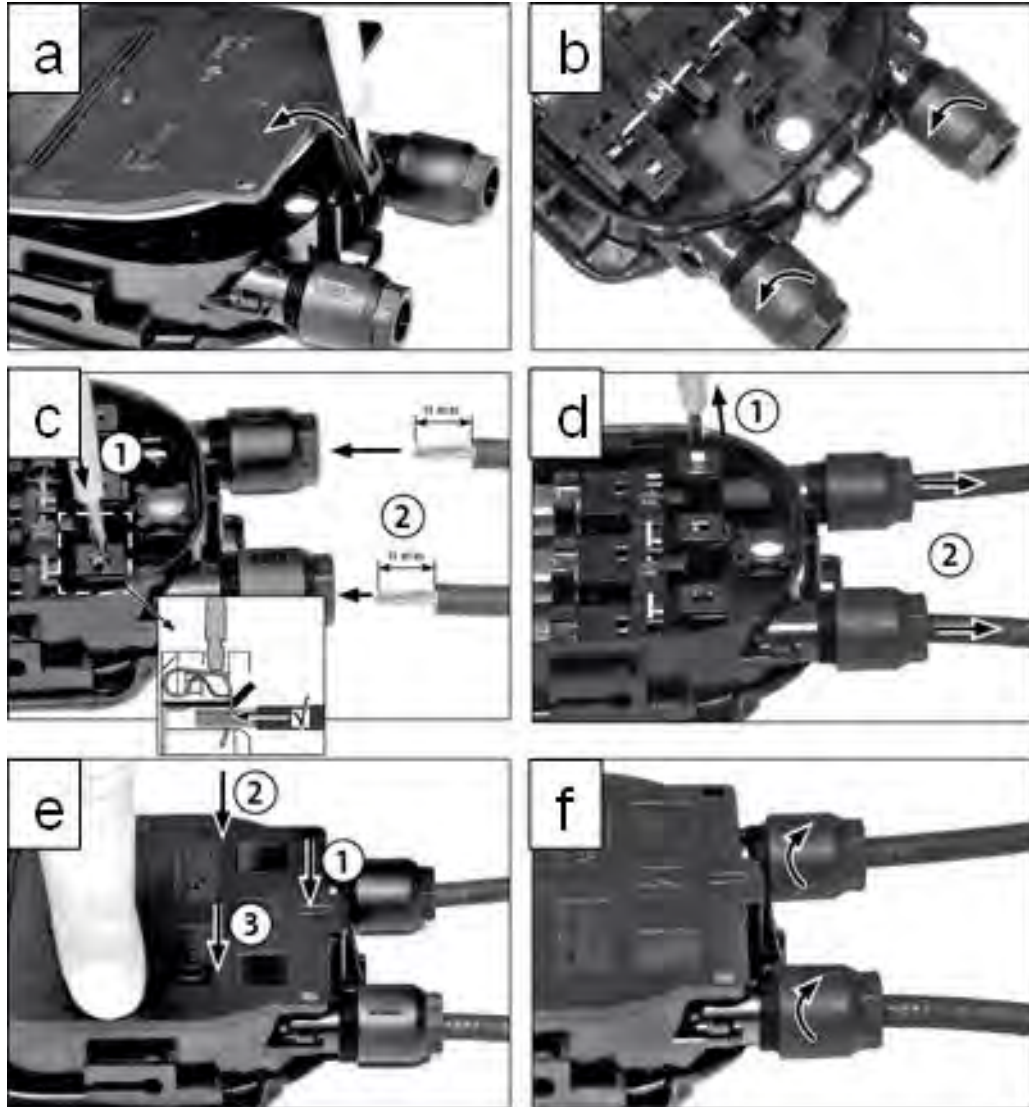

Figure 27. Connecting the power cable to the solar panel junction box
1. Connect the solar panel power cable to the junction box behind the solar panel as shown in **Figure 27**. Connect the red cable to the positive terminal and the black cable to the negative terminal.